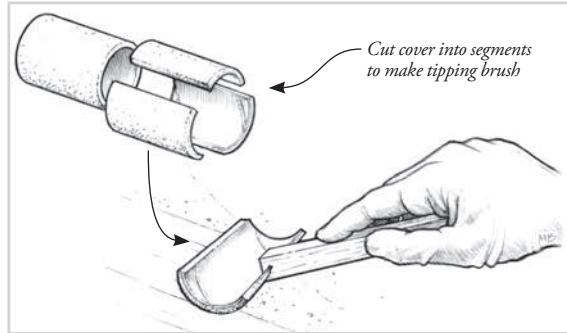

Figure 16-24 Tip off the fresh coat of epoxy using a foam roller brush to remove bubbles and roller marks.
8. Drag a foam roller brush lightly over the fresh epoxy in long, even, overlapping strokes after each full batch is applied. Use enough pressure to smooth the stipple, but not enough to remove any of the coating (Figure 16-24). Alternate the direction in which each coat is tipped off, 1st coat vertical, 2nd coat horizontal, 3rd coat vertical, etc. A WEST SYSTEM 800 Roller Cover can be cut into segments to make a tipping bush.